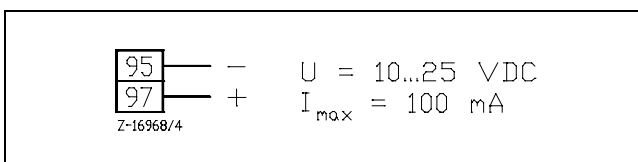

Fig. 7 Connection of power supply to the electrically isolated interface RS-485 with external voltage supply
3. Connect the external floating direct voltage 10...25 V as shown in fig. 7.